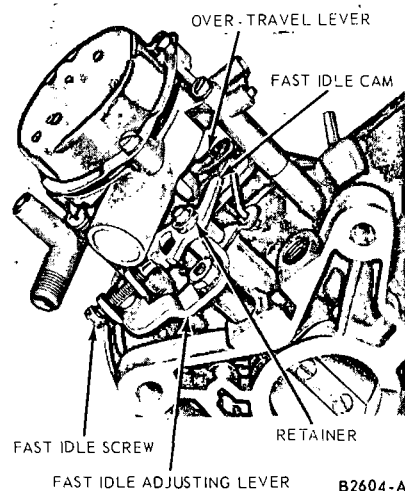

FIG. 10—Fast Idle Cam and Fast Idle Lever
1. Remove the fast idle cam retainer (Fig. 10).
9. If necessary, remove the nut and washer securing the fast idle adjusting lever assembly to the throttle shaft, and remove the lever assembly (Fig. 10). If necessary, remove the idle screw and the retainer from the fast idle adjusting lever.